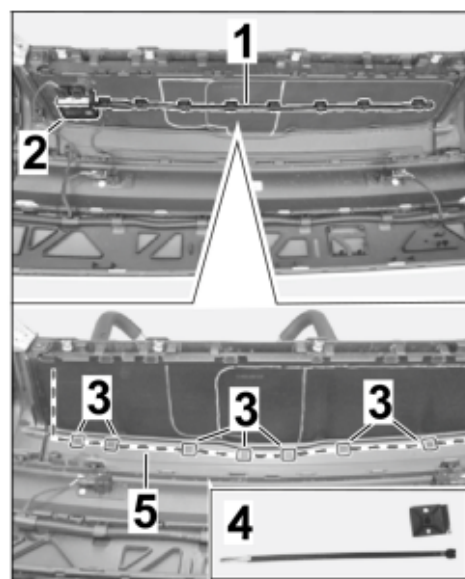

Figure 5
- 1.7.1 Carefully remove "Virtual pedal" antenna line with holder and tie-wraps (7 x) from the inside of the rear apron ⇒ *Figure 5 -1-*.
- 1.7.3 Clean bonding area in the new antenna line routing area to remove any dust and grease ⇒ *Figure 5 -3-*.